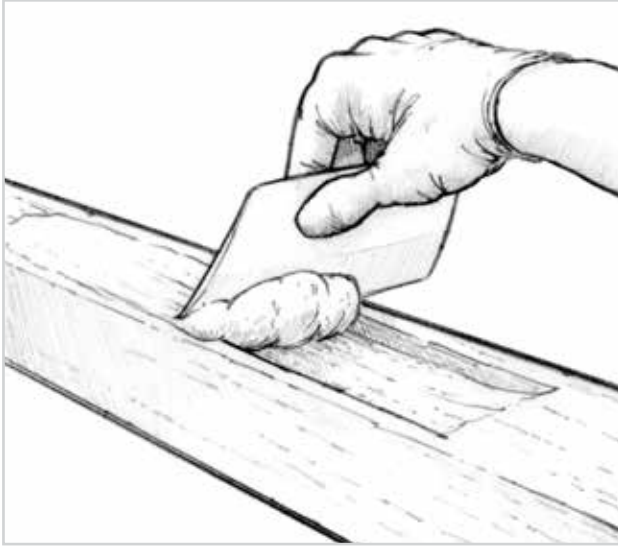

Figure 3-2 Trowel thickened epoxy into smaller voids.
3. Fill the cavity with epoxy thickened with a high-density (406, 404 or 403) filler to a peanut butter consistency. Trowel the mixture into the void with a plastic spreader or mixing stick (Figure 3-2). Smooth the mixture flush with the surface and remove any excess before the mixture begins to cure.